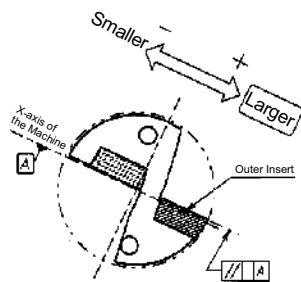
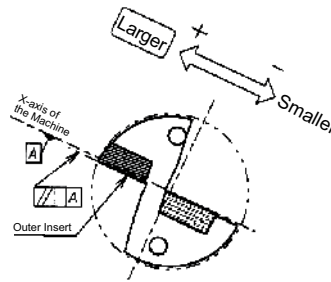

Fig.2 Outer insert Facing Up
Fig.3 Outer insert Facing Down
The upper screw should be tightened slightly so that the sleeve will not be damaged. (Fig.2)
The Center Height is appropriate if a core approximately 0.5mm diameter remains at the center of the end face. (Fig.3)
- ① The moving direction of the X-axis movement depends on the position of the toolholder.
- ② In case of making the hole diameter larger, slide the tool along the X-axis toward the outer insert side. (Fig.2, Fig.3)